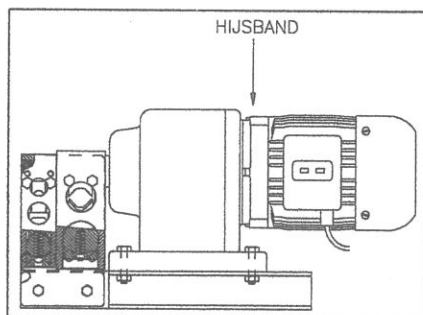

Figure 5.2-1: Position of hoisting strap (the AL1-2E is shown)
- Remove the pipe notcher from the packaging with a hoisting strap placed around the motor. See Figure 5.2-1.
For vertical lifting with a hoist, a hoisting strap must be installed as shown in Figure 5.2-1.